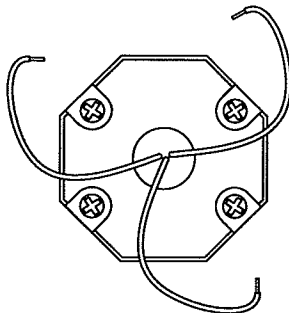

FIGURE 3
3. MOUNT EITHER AN OCTOGONAL OR SQUARE JUNCTION BOX (NOT SUPPLIED) TO WALL (RECESSED OR SURFACE). SEE FIGURE 3.